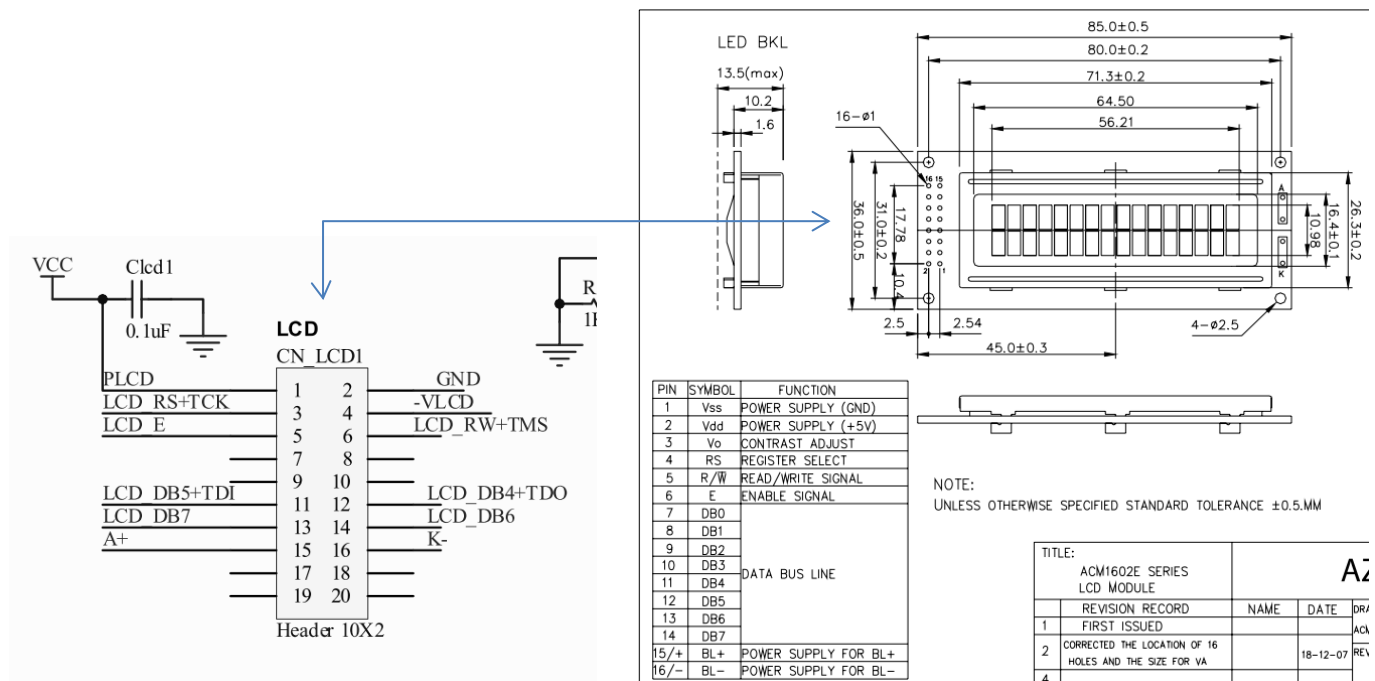

Figure 27 – Connection of Conventional LCD, here ACM1602 type to CN_LCD1 – See page 2 of the CL2bm1 schematic in the repository.
3.c.2 Example 3 hardware connection: The cabling of the display follows ACM1602 [ref17] but there are multiple manufacturers offering the same type of display (Figure 27). This display has an LED backlight which can be switched On or Off via the A+ and K- pins and for the CL2bm1 board through a driver transistor Q2 connected to the PD.6 pin. There are two connectors for the display on CL2bm1, the CN_LCD1 is for the most common pinout using a 4-bit interface.